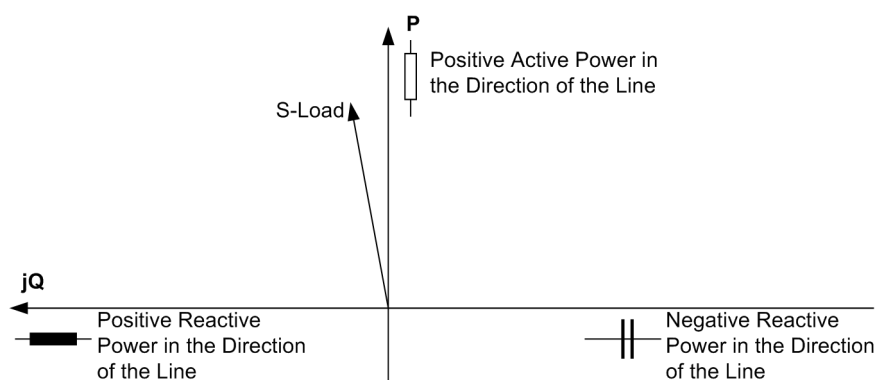

Figure 3-26 Apparent load power
- The measured power values on the actual device or in DIGSI enable you to verify that they correspond to the load direction (Figure 3-26):